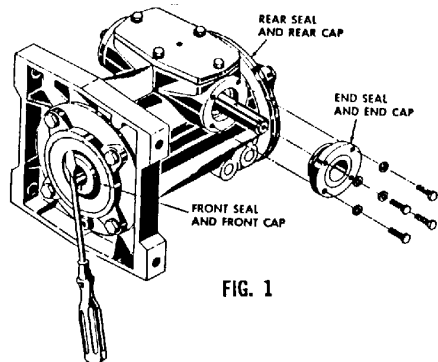

FIG. 1
2. Lay air switch assembly on flat surface. Adjust air blade at "A" (Fig. 1) so that air blade lays flat and surface "B" is parallel to the flat surface.
TO REMOVE EXISTING FRONT AND REAR SEALS from front and rear caps on Gear Reducer (Fig. 1):
TO REMOVE EXISTING END SEAL and END CAP from Gear Reducer (Fig. 1):
2. Place one "A" and two "B" diameter pins inside the drying compartment between the rim of the basket opening and the rim of the door opening in the positions shown in Figure 1 and Figure 2. Check the two "B" pins for equal clearance.